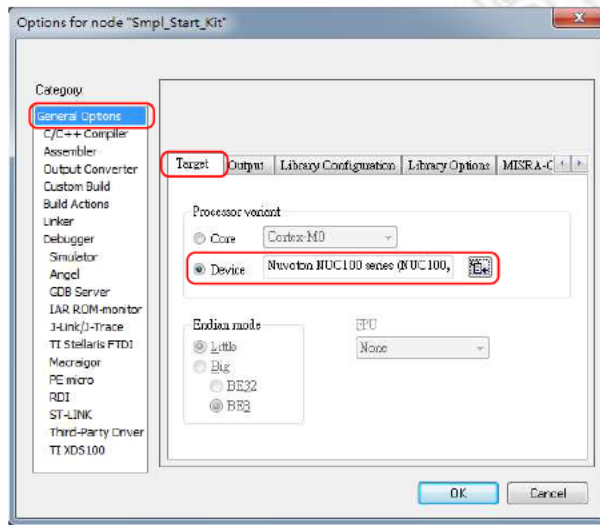

Figure 4-14 IAR EWARM Target Chip Selection
- Step 3: In the **Target** tab of the **General Options** page (through invoking **Project** → **Options**), click the button in the right of the **Device** option (make sure the **Device** option is enabled), and select "**Nuvoton** → **Nuvoton NUC100 series**" as the target chip (NUC100 series is this case), as shown in Figure 4-14.